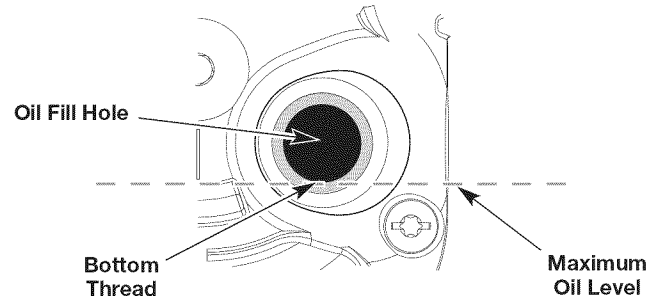

Fig. 20
5. Look into the oil fill hole; use a flashlight if necessary. **The oil level should just touch the bottom thread of the oil fill hole** (Fig. 20). If the oil level is too low, add oil to the oil fill hole until the oil level touches the bottom thread of the oil fill hole.